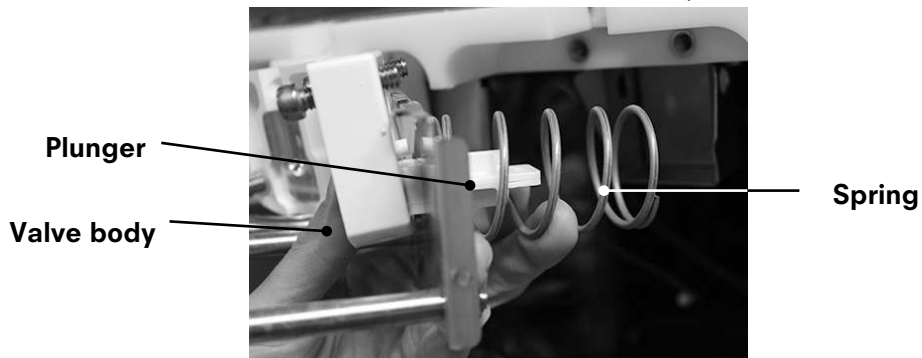

Figure 2
10. Gently take apart the valve assembly (see Figure 2) and drop the parts into a container of warm soapy water. Be careful not to pull the wires that are attached to the dispenser. They are threaded through the valve body, so these pieces can't be removed completely. The valve body can only be moved the length of the thermistor wires.